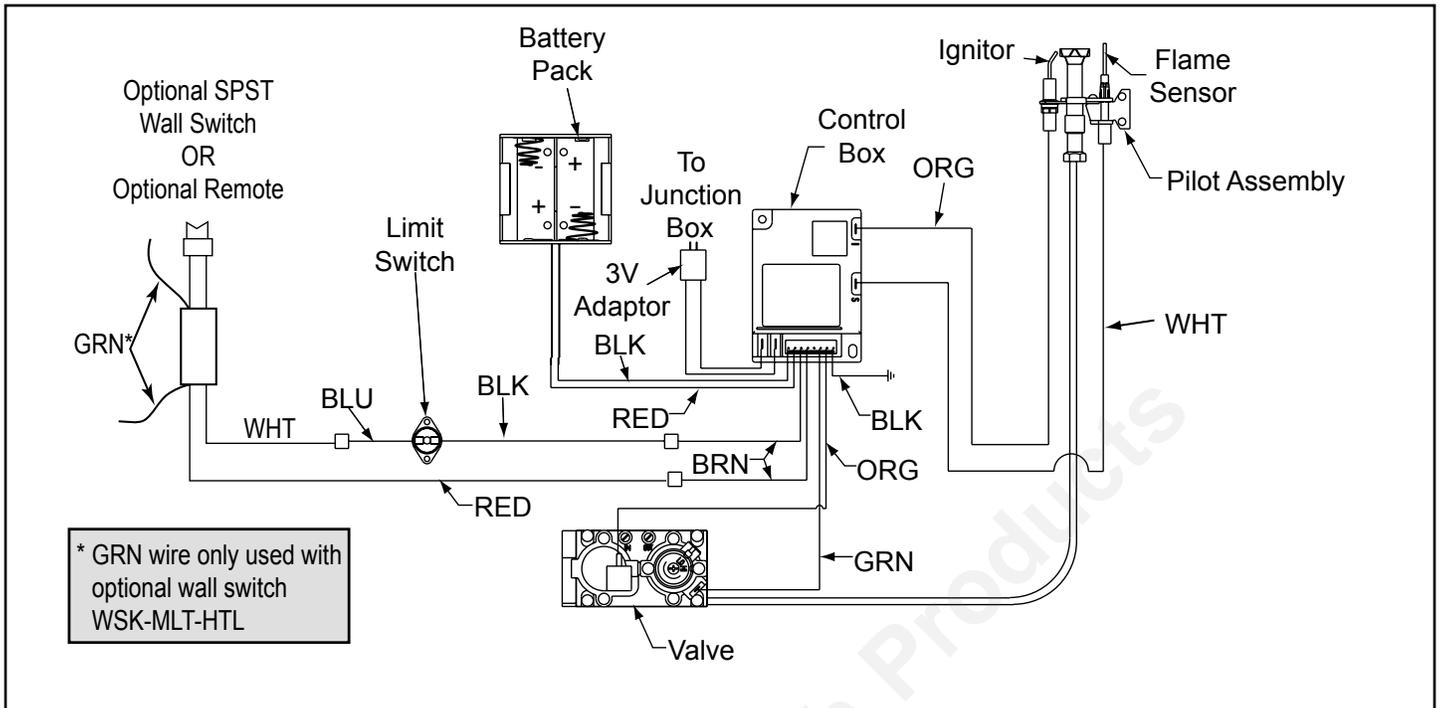

Figure 10.2 Intellifire Pilot Ignition (IPI) Wiring Diagram
This appliance requires a 110 VAC supply to the appliance junction box for operation. A wiring diagram is shown in Figure 10.2.
- It is recommended that a 110 VAC junction box be installed for use with a fan or remote control. (See Figure 10.2 for junction box wiring.)